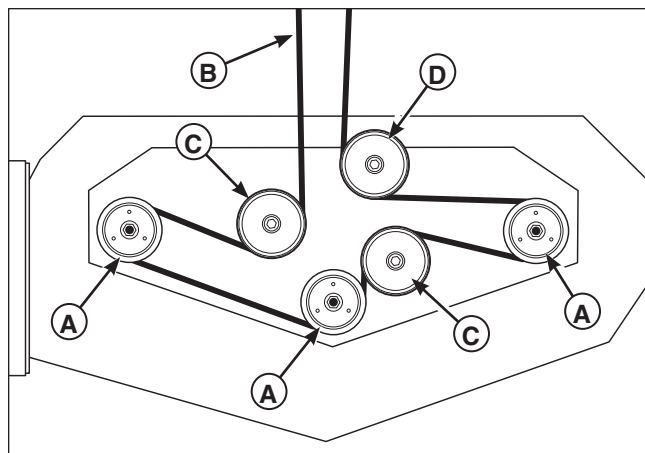

Figure 28. Mower PTO Belt Routing
4. Slide the drive belt over the edge of the stationary idler pulley (B). Carefully release the tension on the breaker bar until the idler arm comes to a stop.
6. Unhook the idler tension spring (C) from the anchor bolt (D). Remove the old belt and replace with a new one. Make sure the V-side of the belt runs in the pulley grooves.
7. Install the drive belt on the PTO pulley, the spindle pulleys, and all idler pulleys except the stationary pulley. Rehook the idler tension spring from the anchor bolt. Carefully rotate the breaker bar COUNTER-CLOCKWISE and install the belt on the stationary idler pulley. Carefully release the tension on the breaker bar. The belt should be routed exactly as shown in Figure 28.